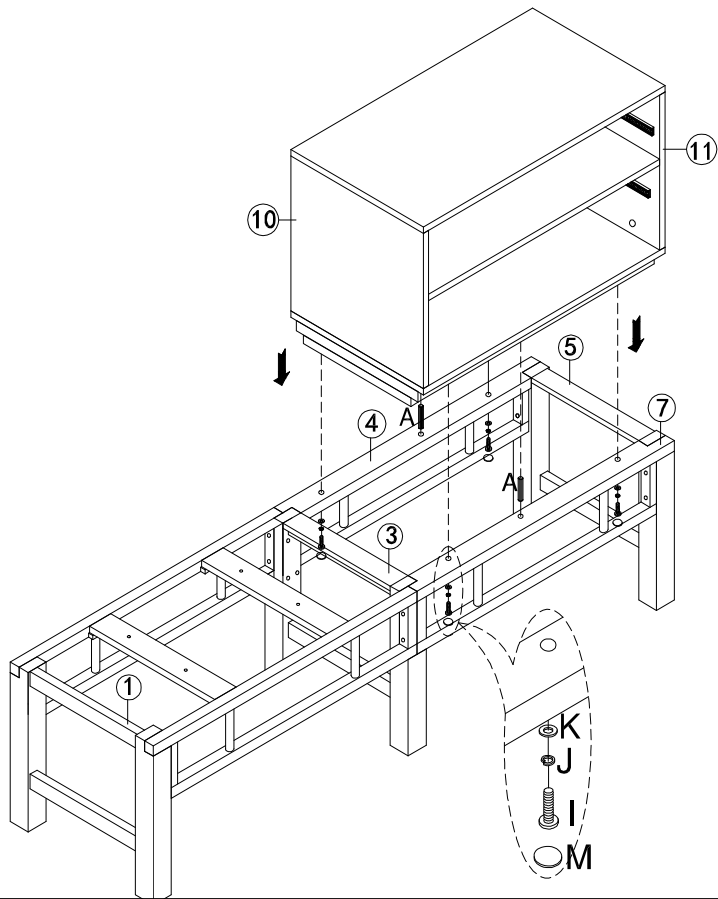

Figure 7
Attach Cushion (9) to assembled unit from Figure 7 with Screws (D).